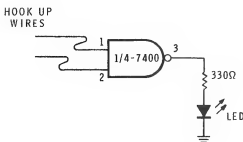

Figure 5-50
3. Connect one of the four gates in the IC as shown in Figure 5-50. The hookup wires will be used to apply high (+5V) or low (0V) logic signals to the NAND gate. The LED will monitor the output of the NAND gate. The LED will be _____ when the NAND output is high.